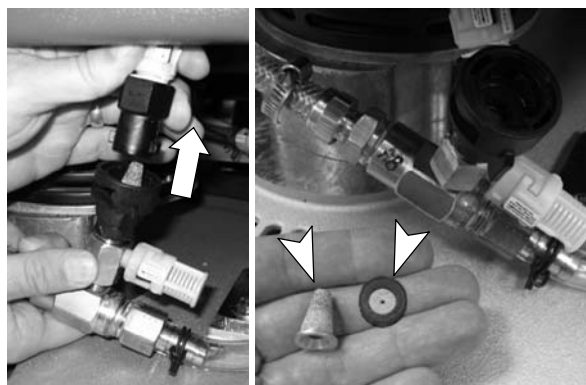

FIG. 49
- Open the black filter housing and clean or replace the orifice plate and filter (Figure 49).